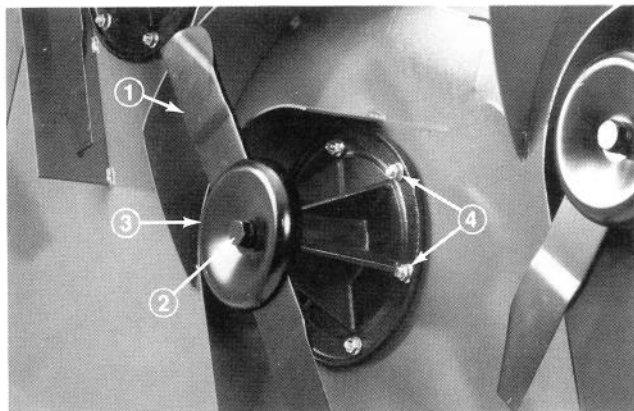

Figure 60
2. Using a rag or thickly padded glove, grasp end of blade. Remove blade bolt, lockwasher, anti-scalp cup and blade from spindle assembly (Fig. 60).
2. Remove deck covers. Check length of compression spring on idler assembly to right of the drive motor (Fig. 60). Spring length should be 5–1/2 in. (14 cm) and shoulder bolts securing tension plate under spring should be centered in slots. If spring length is correct and shoulder bolts centered in slots, replace covers. If spring length is incorrect and shoulder bolts not centered, proceed to step 3.
1. Remove deck covers. Lift each wing to release idler pulley tension and slip belt off pulleys (Fig. 60).
4. Remove flange head screws securing gearbox plate and separate plate and drive motor assembly from the deck (Fig. 60). Be careful not to bend, twist, kink or damage flexible hydraulic lines.
2. Remove deck covers and relieve belt tension on all belts (Fig. 60).